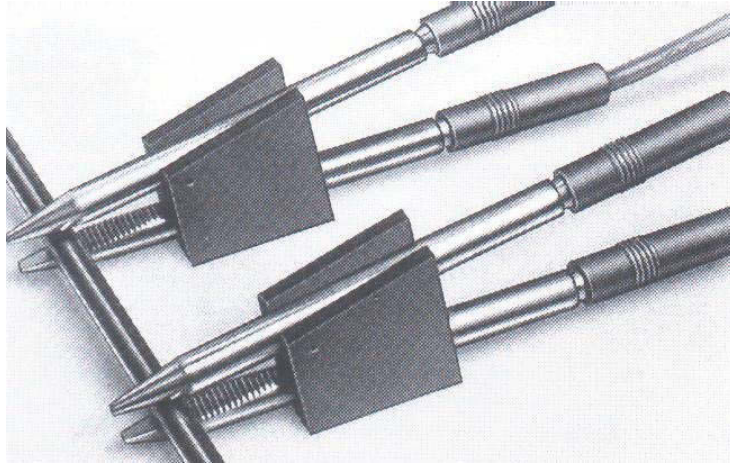

Fig. 9.1 Combined current and potential probes (Kelvin clips)
- b) Clip on to the resistor under test (fig. 9-1). Cleanliness is important and if the sample is not clean, a rub with an abrasive paper to remove oxides is recommended.